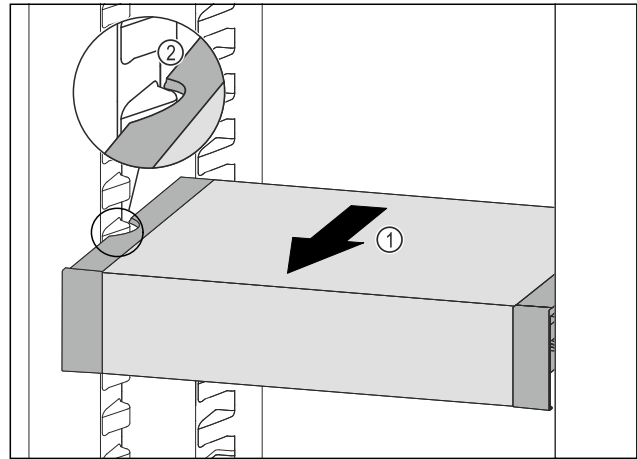

Fig. 95
- ▶ Pull VarioSafe forwards Fig. 95 (1) until the recesses in the side of the VarioSafe are at the level of the support rib in the fridge section. Fig. 95 (2)